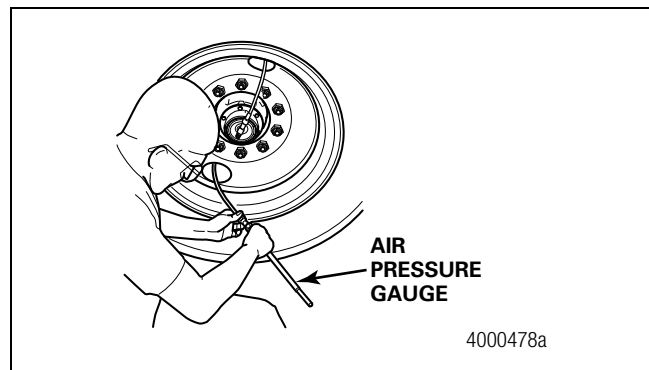

Figure 3.8
11. Disconnect the test-tire hose from the thru-tee. Check the test-tire pressure using an accurate air pressure gauge. Tire pressure should equal the system pressure setting on the decal in the control box. Figure 3.8.